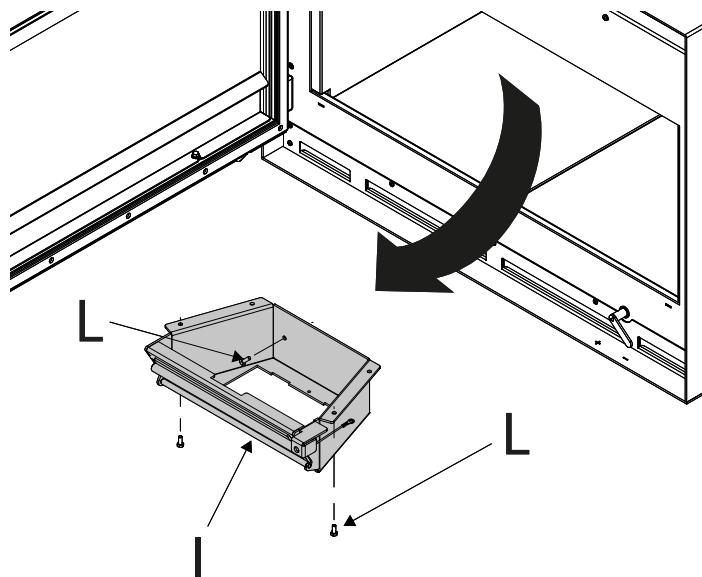

Fig. 9.2.4
- Remove flue gas box by acting on the four screws (two front and two rear) (Fig. 9.2.4)